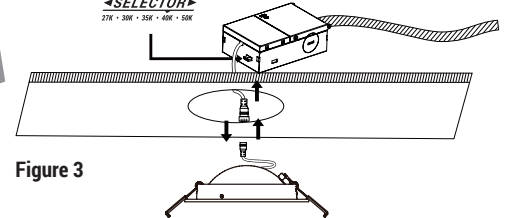

Figure 3
3. Insert J-Box through the mounting hole and secure it, connect the fixture power cable to the J-Box. Select lamp color desired with the CCT switch, (see Fig 3).
1. Connect the fixture to the hardwire box by inserting and twisting the male/female connectors. Select the desired Color Temperature. (Figure 3)